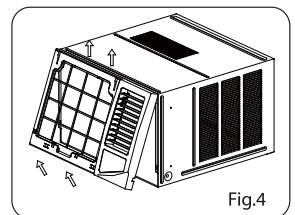

Fig. 4
2. Hold the left bottom side of the frame, lift it up to unlatch the lower side, remove it toward you (See Fig. 4)